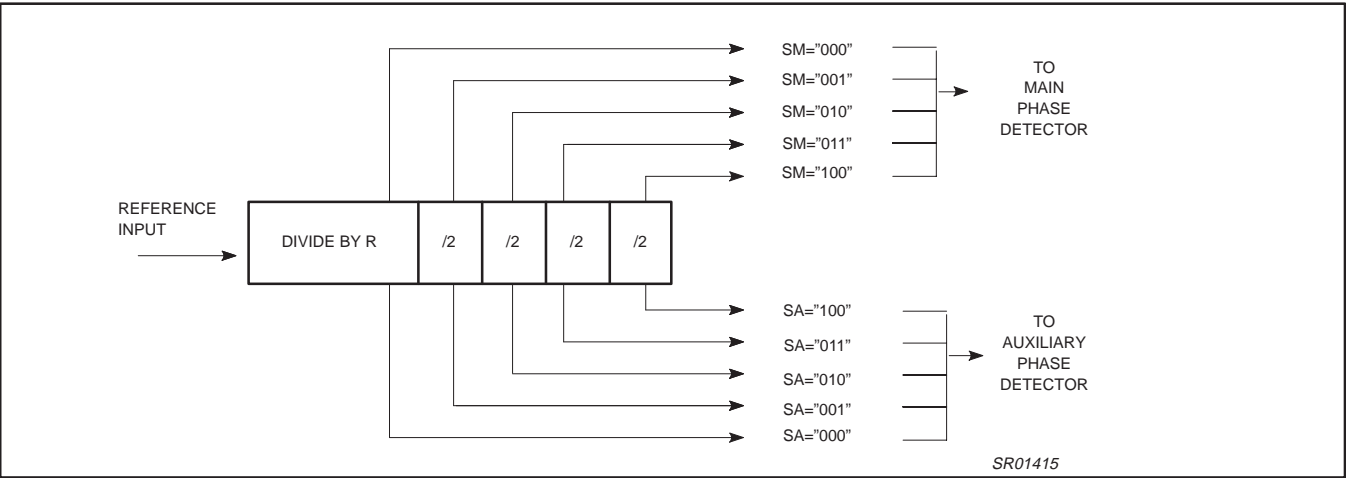

Figure 4. Reference Divider
The reference divider consists of a divider with programmable values between 4 and 1023 followed by a three bit binary counter. The 3 bit SM (SA) register (see Figure 4) determines which of the 5 output pulses are selected as the main (auxiliary) phase detector input.